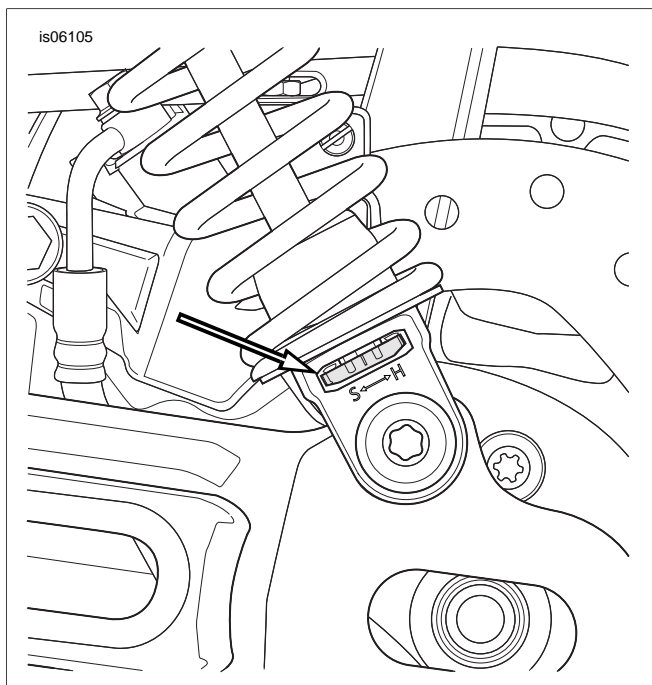

Figure 7. Rear Shock Rebound Damping Adjuster
- a. See Figure 7. Turn the rebound adjuster counterclockwise (toward the "H") until it stops. This is the maximum rebound damping setting.